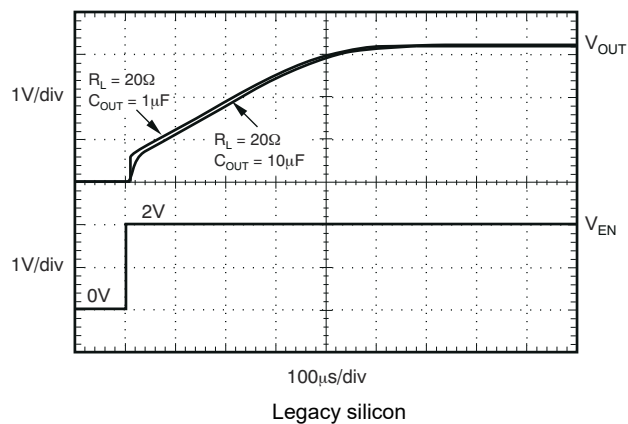

Figure 5-39. TPS73701 Turn-On Response
The enable pin (EN) is active high and compatible with standard TTL-CMOS levels. V_{EN} below 0.5 V (maximum) turns the regulator off and drops the GND pin current to approximately 10 nA. When EN is used to shutdown the regulator, all charge is removed from the pass transistor gate. A V_{EN} above 1.7 V (minimum) turns the regulator on and the output ramps back up to a regulated V_{OUT} (see Figure 5-39).